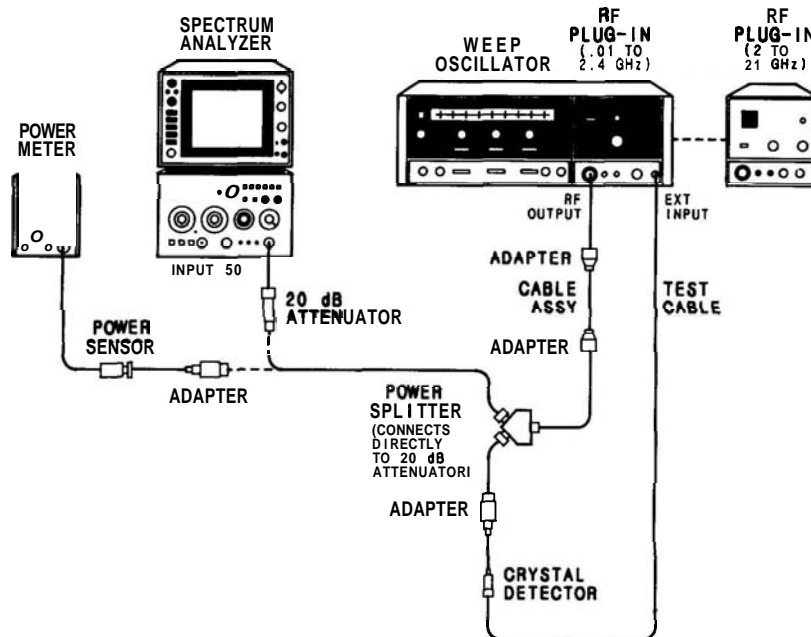

FIGURE 4-14. FREQUENCY RESPONSE TEST SETUP
- Using 0.01 – 2.4 GHz sweep oscillator plug-in, connect equipment as shown in Figure 4-14. Connect output of power splitter, through 20-dB attenuator, to spectrum analyzer input. Turn sweep oscillator RF power ON and adjust ALC GAIN control for leveled output indication.